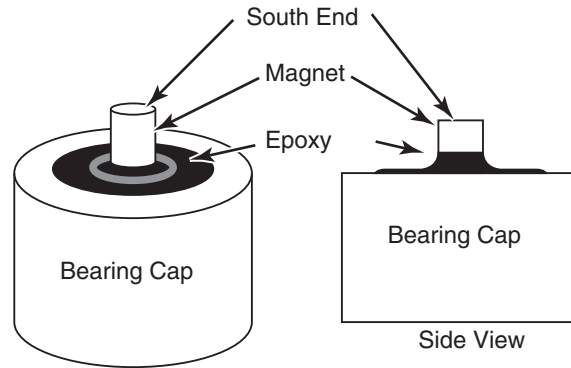

Figure 2
5. Apply a small amount of epoxy onto the end of the bearing cap. (See Figure 2.)